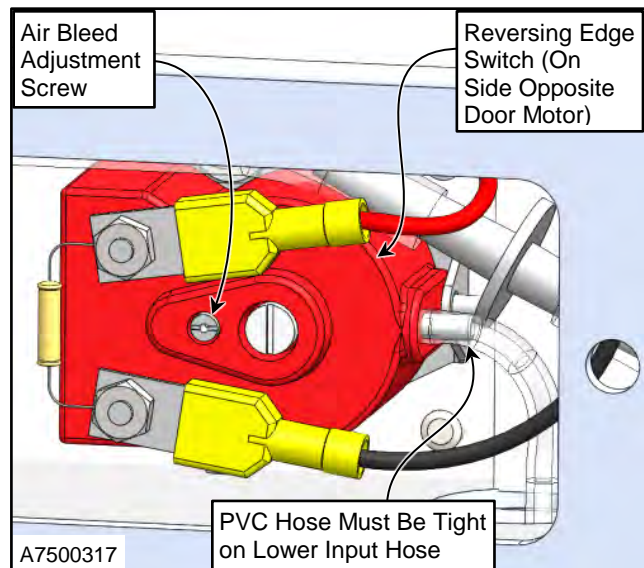

Figure 38
2. Make sure the clear PVC hose is in tight contact with the air input post so that air leakage cannot occur & that vibration will not cause the hose to fall off. Make sure the hose is not kinked. (See Figure 38)
3. The air bleed has been set at the factory and should not require adjustment. To check the air bleed, turn the air bleed adjustment screws, located on the front & back of the switch, fully clockwise but do not overtighten. Then turn the screws counter-clockwise one full turn. (See Figure 38)